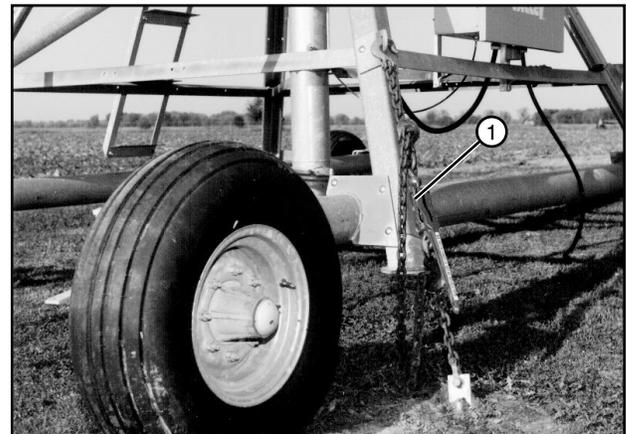

Figure 41-2 1. Load binder
4. Remove the load binders at each corner of the pivot. See figure 41-2.